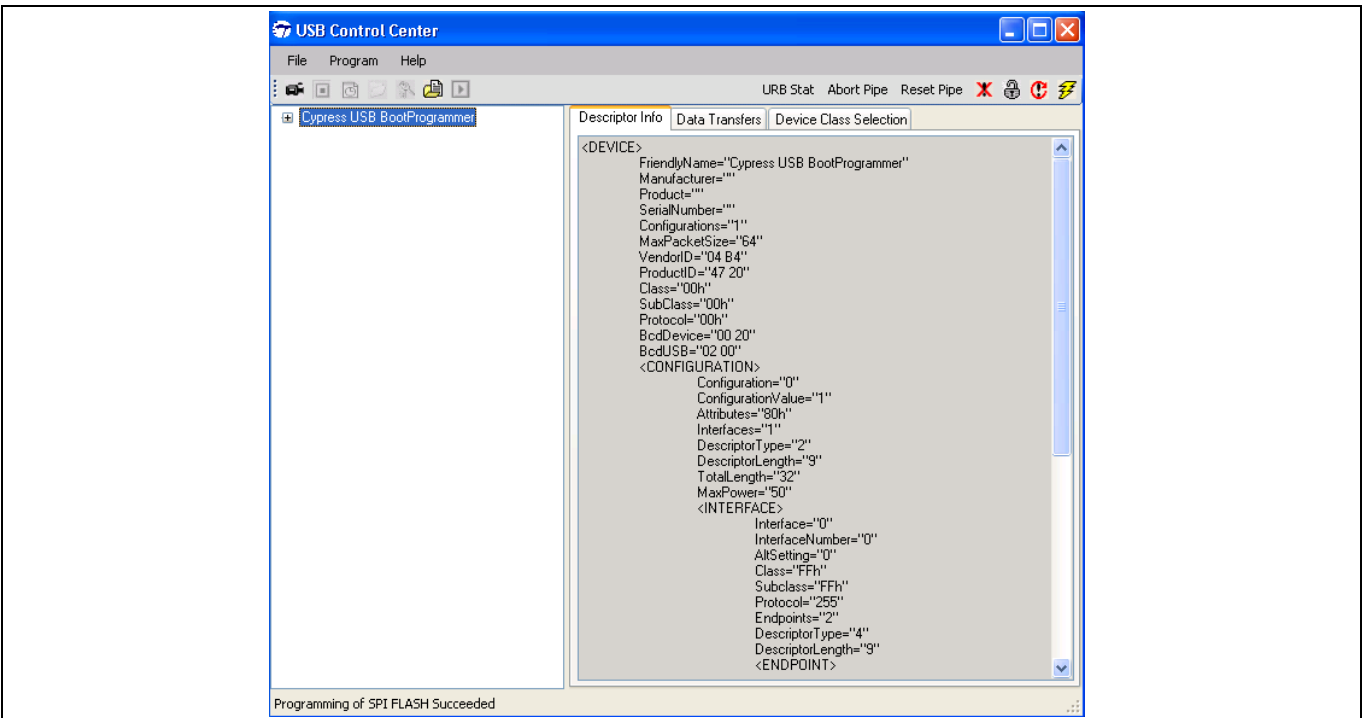

Figure 33 Successful programming of SPI flash indicated at bottom left of Control Center
5. After programming is complete, the bottom left corner of the window displays “Programming of SPI FLASH Succeeded,” as shown in Figure 33.